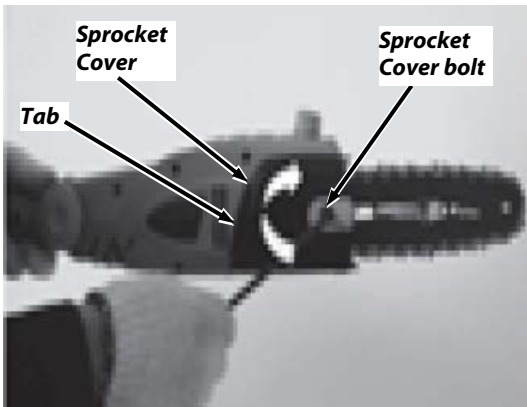

Figure 5
6. Install the Sprocket Cover by inserting the rear tab first and positioning the Cover onto the Bar Stud (**Figure 5**).